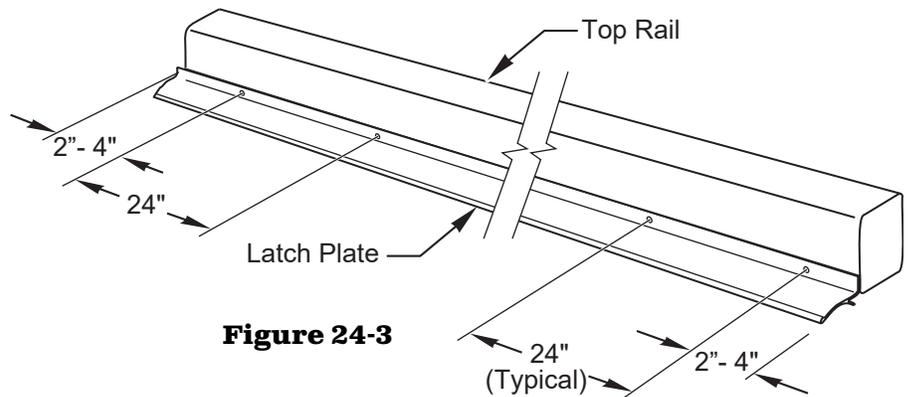

Figure 24-3
2) **Figure 24-3.** Drill a pilot hole 2"-4" in from each end and every 24" in each section.